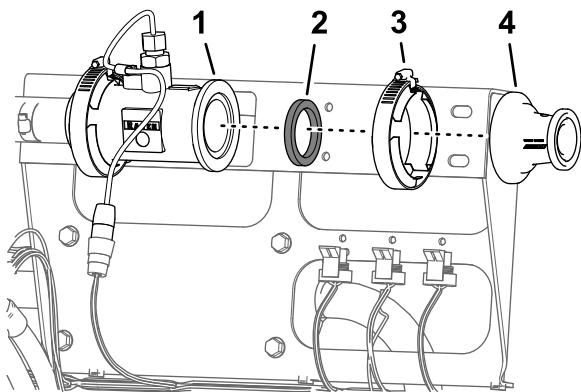

Figure 71
- Remove the flange clamp 51 mm (2 inches) and gasket 38 mm (1-1/2 inches) that secure the flange of the adapter to the flange of the flow meter (Figure 71).